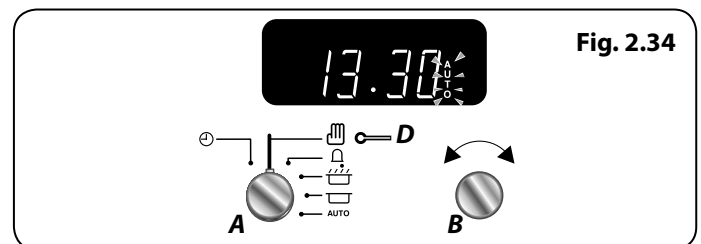

Fig. 2.34
6. When the program starts the Multifunction Oven, the 'Cooking' symbol will appear on the display. Once the specified time has elapsed it will emit an alarm and the Multifunction Oven will stop working. The 'Cooking' symbol on the display will disappear and the word 'AUTO' will flash (**Fig. 2.34**).